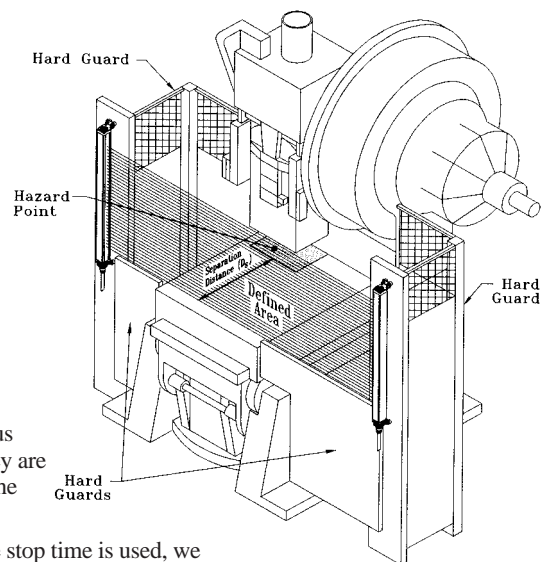

Figure 27. Calculation of D_s
- 2) Verify that the minimum separation distance from the closest danger point of the guarded machine to the defined area is not less than the calculated distance (see figure 27, below).